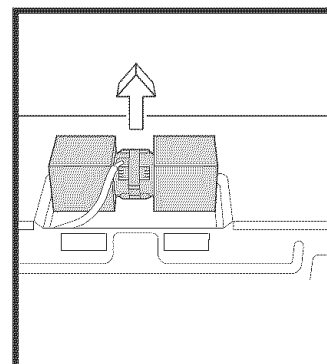

Figure 12
2. Lift Hood Fan Unit carefully and slip wires out of cavity. See Figure 12. **Caution:** Do not pull or stretch hood fan wiring.